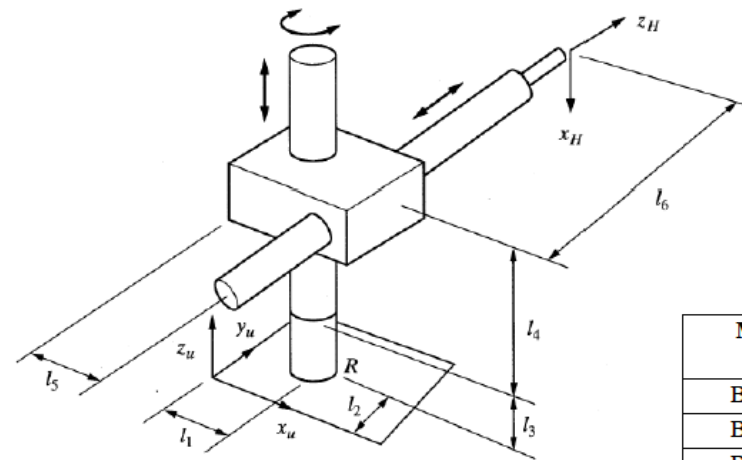

Figure 2: A robot schematic diagram
- (b) Figure 2 shows a three degree of freedom positioning robot. A frame is to be located as follows: